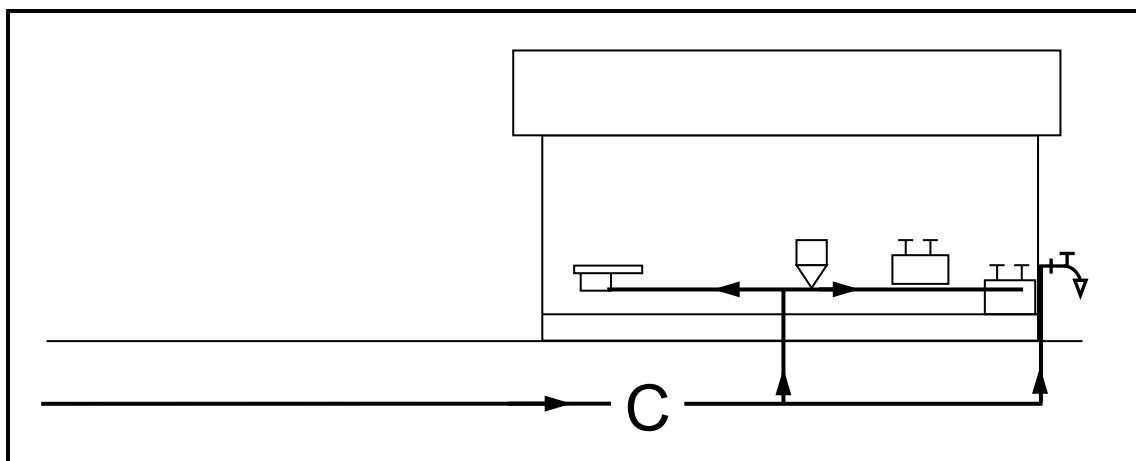

FIGURE 5.10
5.10 FIGURE 5.10 shows the front elevation of the cold-water supply from the water meter to a house on scale 1 mm = 100 mm. The main cold-water pipe has a diameter of 22 mm and the branch pipes have a diameter of 15 mm. Study the drawing and determine the material needed for the plumbing installation by completing the table.